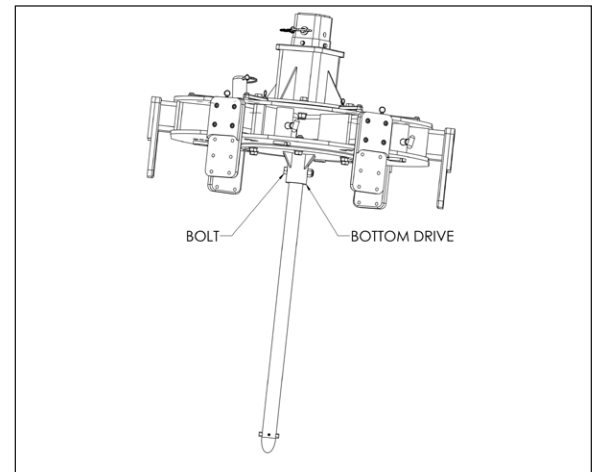

Figure 13. Inserting Guide Shaft Into Bottom Drive Assembly
- 13.** Insert the Guide Shaft into the Bottom Drive of the cutter, being careful to line up the hole in the Guide Shaft with the hole in the Bottom Drive. **See Figure 13.**